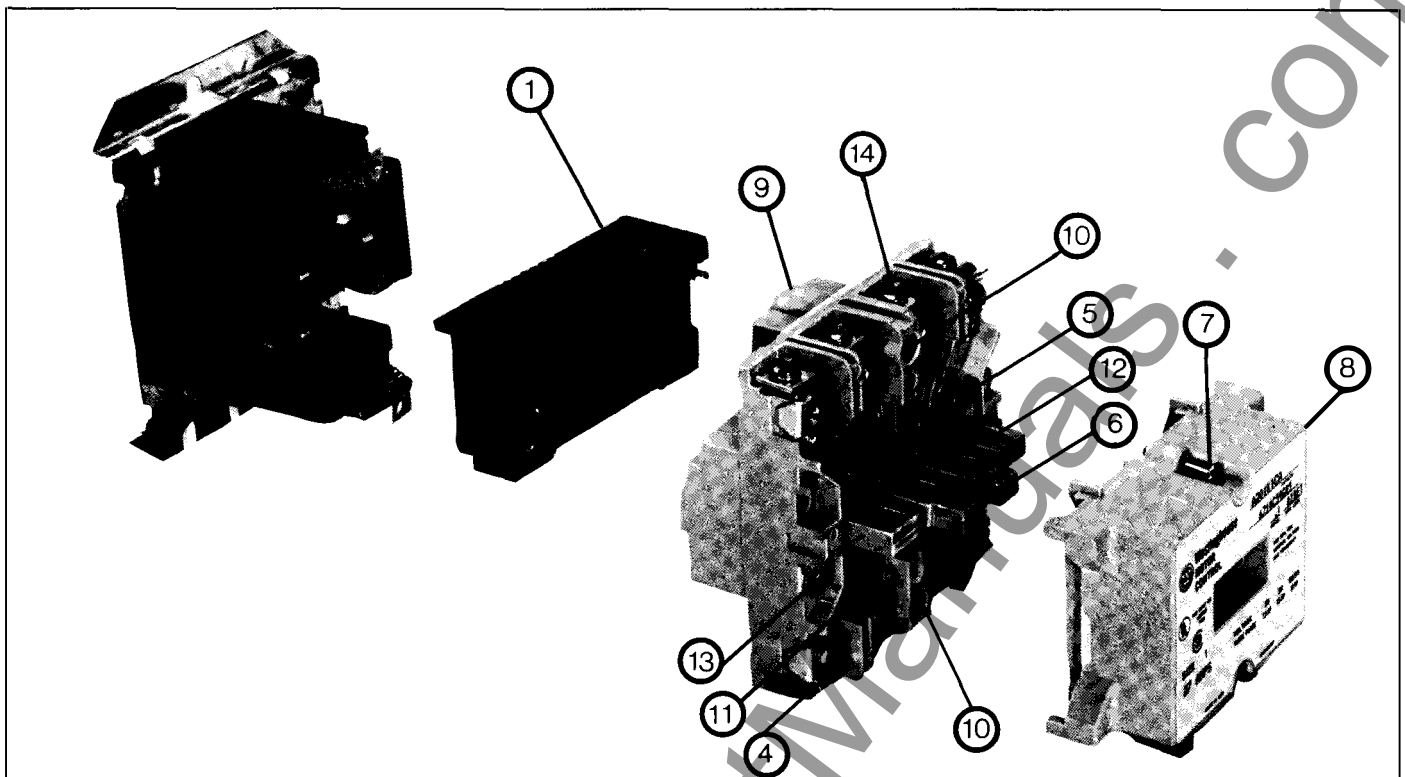

Fig. 6 30 Ampere, A202 Contactor (Exploded View)
Refer to Figure 6. Loosen the two arc box assembly screws (7) located immediately above and below the nameplate and remove the arc box (8). Contacts (5) are visible. Retighten the screws per Table II.
Refer to Figure 6. Loosen the assembly screws (10) located to the immediate top and bottom of the arc box. Pull the loosened upper base structure (9) forward. Pull the coil (1) from the upper base, plug in a new coil, replace the upper base structure and check the auxiliary contacts for secureness when repositioning the upper base. Tighten the assembly screws referring to Table II.